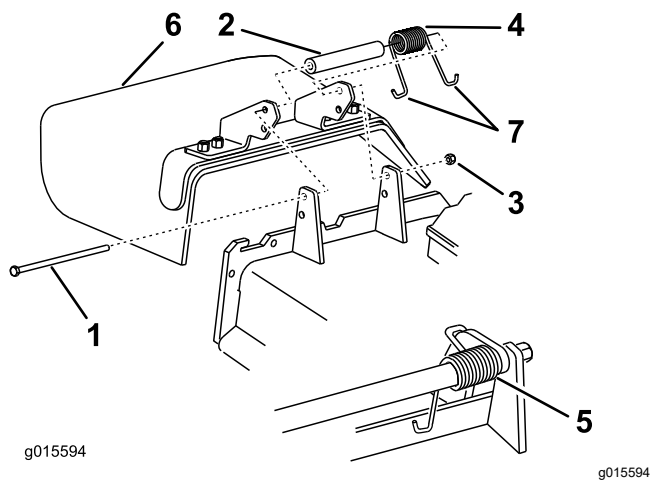

Figure 88
1. Remove the locknut, bolt, spring, and spacer holding the deflector to the pivot brackets (Figure 88).
Note: Make sure that 1 J-hook end of spring is installed behind deck edge before installing the bolt as shown in Figure 88.
6. Place 1 J-hook end of the spring around the grass deflector (Figure 88).